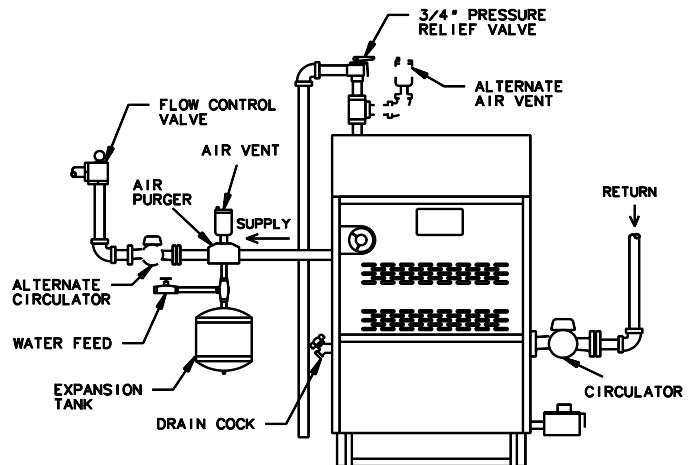

Figure 10. Piping Arrangement
- Packaged water boilers are equipped with a water circulating pump, mounted to return the water into the boiler. For some installations, the pump should be on the supply main. See figure 10.
- DIAPHRAGM-TYPE COMPRESSION TANKS are used to control system pressure in an AIR ELIMINATING SYSTEM: an automatic air vent is used to REMOVE air from the system water. See figure 8. If system pressure needs further control, add an additional tank or install a larger capacity tank. Locate the tank near the boiler, as illustrated. An automatic air vent should be installed in the top of the boiler or air purger. See figure 10.